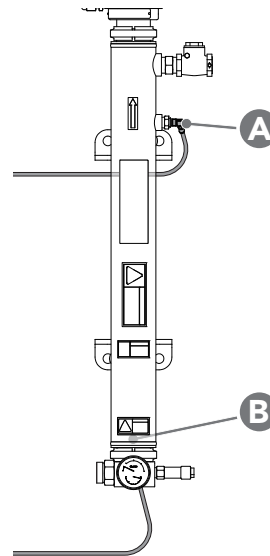

Figure 23. Modular CLV high-limit RTD (A), control RTD behind tank assembly (B) and RTD plug detail (C).
- If there **is no continuity** between TCR terminals **T2** and **T3**, locate connected RTD on the heating tank. Unscrew the RTD plug from RTD. See Table 3 and Figure 23, Figure 24. on following page.
2. Close isolation valves. Drain fluid from the heating tank. Locate the RTD that requires replacement. See *Figure 23*.
3. Unscrew RTD plug. Remove plug. See *Figure 23*.